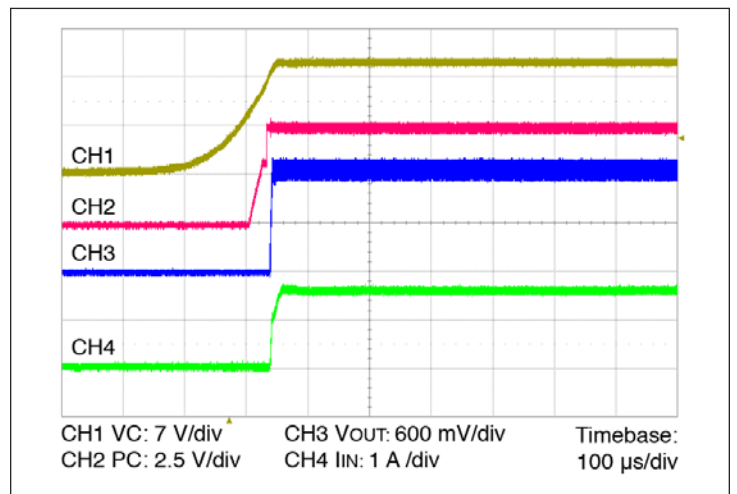

Figure 14 — Start up from application of V_C ; V_{IN} pre-applied $C_{OUT} = 0 \mu\text{F}$
- Stand Alone Operation (VC applied after V_{IN}): In this case the module output will begin to rise upon the application of the VC voltage (See Figure 14). The Adaptive Soft Start circuit (See Section 10) may vary the output rate of rise in order to limit the inrush current to its maximum level. When starting into high capacitance, or a short, the output current will be limited for a maximum of 900 µsec. After this period, the adaptive soft start circuit will time out and the module may shut down. No restart will be attempted until VC is re-applied, or PC is toggled. The maximum output capacitance is limited to 5000 µF in this mode of operation to ensure a successful start.